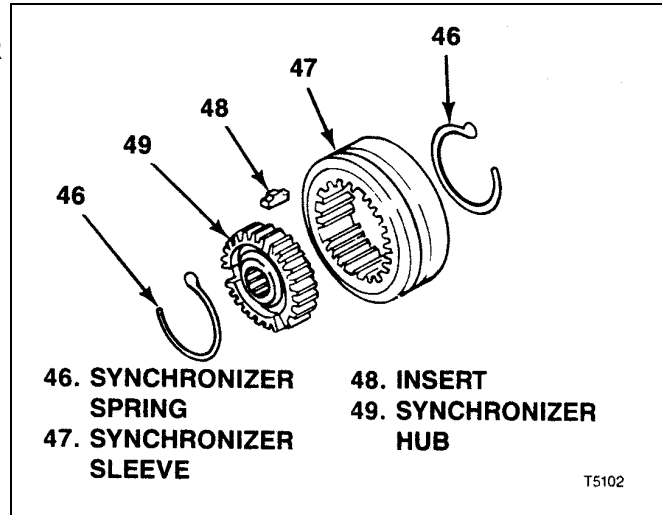

Figure 3-14. T5 WC 5th Synchronizer Assembly
3-21- DISASSEMBLY OF T5 WC 3RD-4TH SYNCHRONIZER ASSEMBLY. Mark synchronizer sleeve (80) and hub (82) so that clutch teeth and faces can be assembled exactly as they were originally. Sleeve and hub are a matched set, selected at manufacture. Disassemble as follows (see figure 3-14):
- Unhook and remove spring (79).
- Slide sleeve (80) from hub (82), freeing inserts (81).